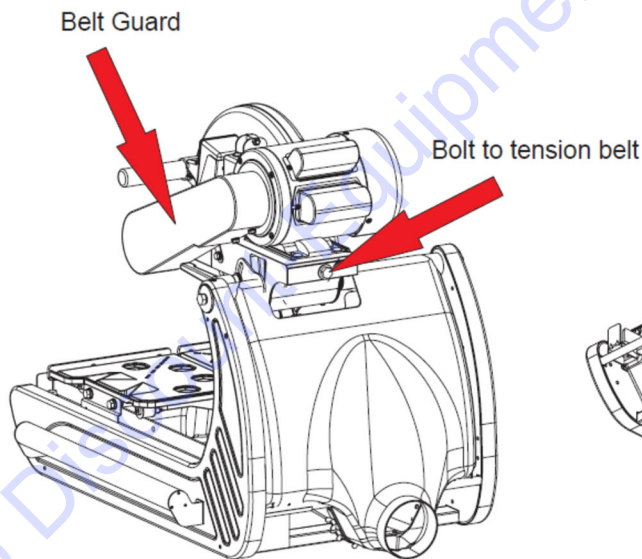

Figure 5-1: Tensioning Bolt and Belt Guard Location
2. Remove the belt guard (see Figure 5-1: Tensioning Bolt and Belt Guard).